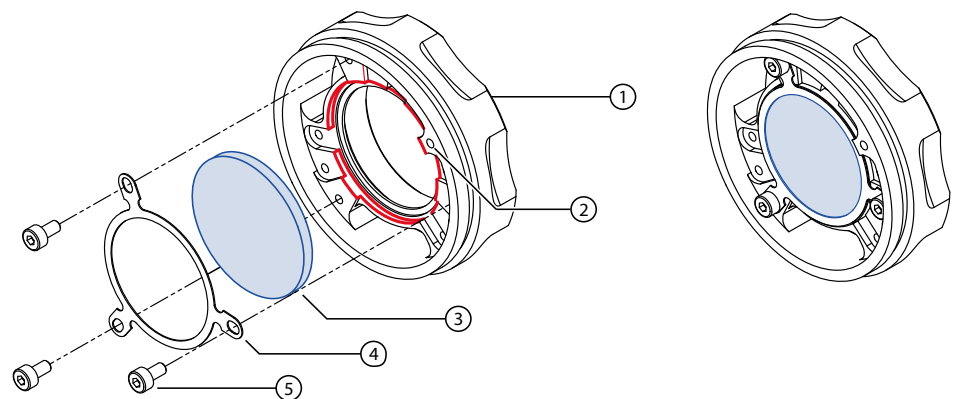

Figure 56: Changing the filter in the C-Mount adapter
To change the filter of the C-Mount lens adapter, follow the instructions outlined in Figure 56.
- See Figure 56 on page 190 (blue = filter, red = filter recess).